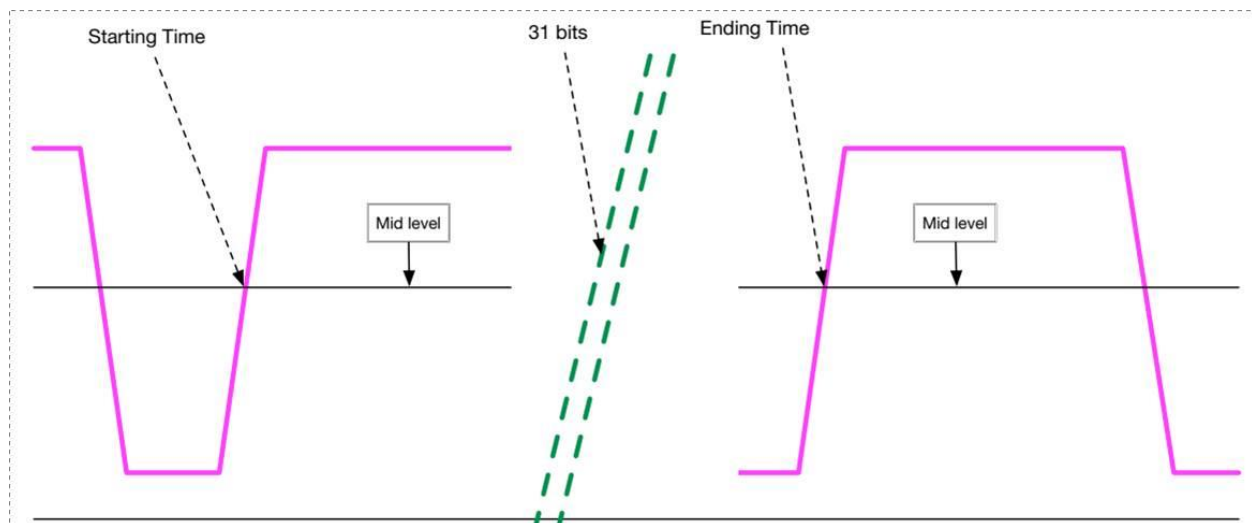

Figure 1: using mid-level to find the reference unit interval
7. The Tester uses the mid-level to find *fBitRateRef* (refer to Figure 1)
7. Use the mid-level to find 1 UI (refer to Figure 1)